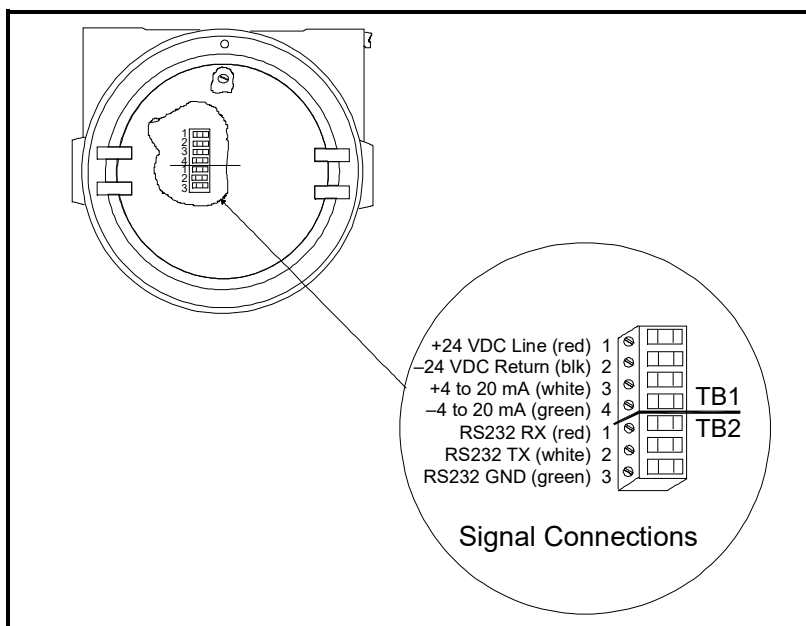

Figure 8: Wiring Connections to TB1 Block
2. Unplug TBI on the XMTC transmitter PC board (PCB) by carefully pulling it directly up without bending the pins attached to the PCB. See Figure 8 below.